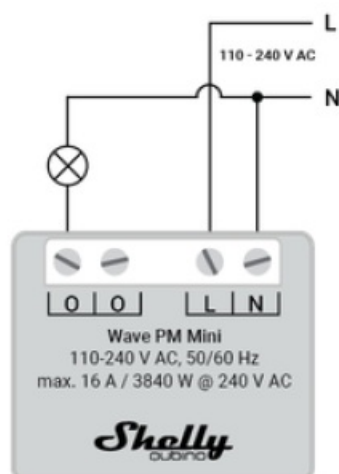

Fig. 1
Connecting to the power grid with power supply 110-240 V AC (Fig. 1).
For the installation instructions, refer to the wiring schemas (Fig.1) in this user guide.
- Connect the load-s to the O terminals of the Device and the Neutral wire, as shown on Fig. 1. Connect the Live wire to an L terminal of the Device.